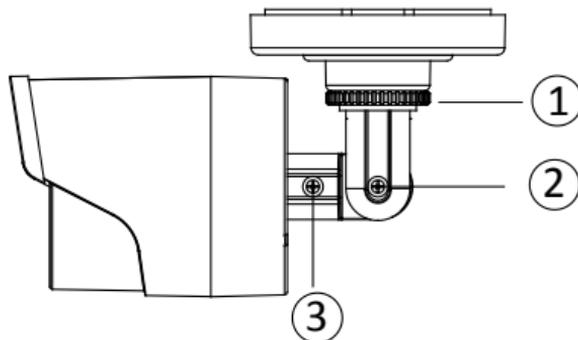

Figure 1-4 Adjusting the Angle
5. Adjust the surveillance angle (refer to Figure 1-4 while adjusting the angle).